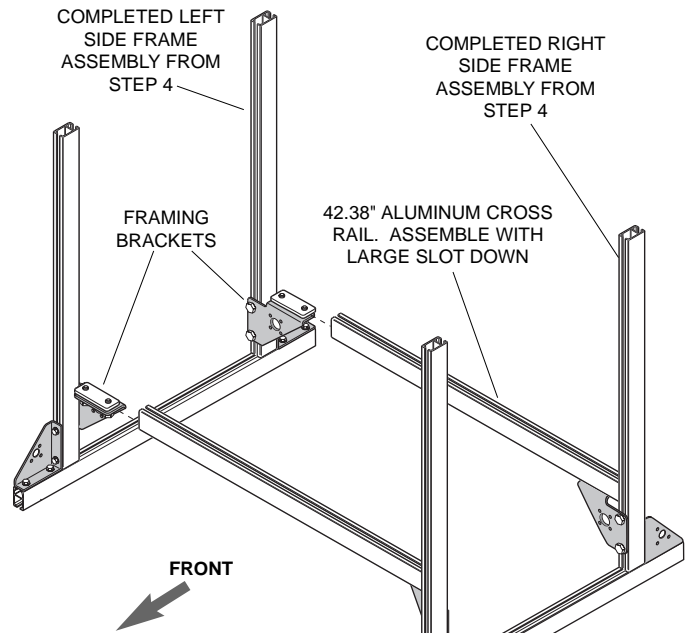

Figure 4.
- Join left and right side frames by standing assemblies upright with two 42.38" rails. Slide rails onto framing brackets with rails ends tight against side frame uprights. Tighten securely. (Fig. 4).